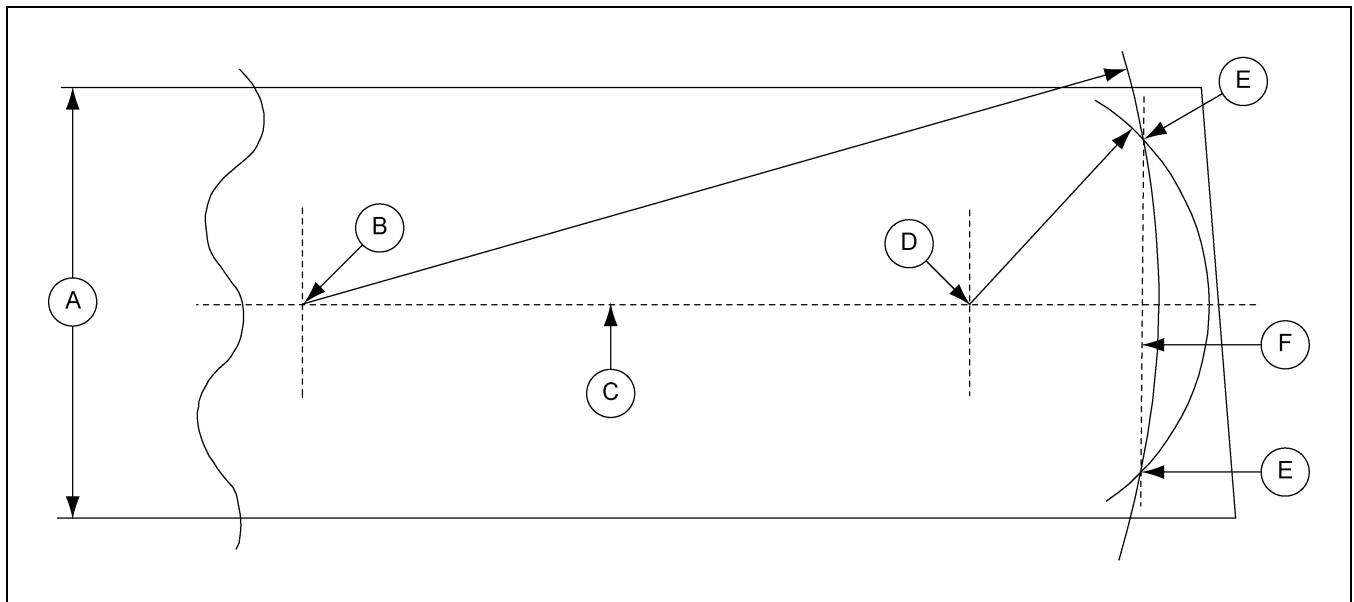

Figure 4S
1. A double arc method is used on establishing a cut line on the belt. After a centerline has been drawn, pick a point on the centerline about two (2) times the belt width. From this point, strike an arc across the width of the belt end. A nail may be used as a pivot point with twine used as the arm of the arc. Tie a marking tool (chalk, for example) to the end of the twine.
2. A second set of arcs is struck with the pivot point of the arc on centerline and close to the belt end. Where the two (2) arcs intersect each other are points on which a cut line is drawn. (See Figure 4S.)